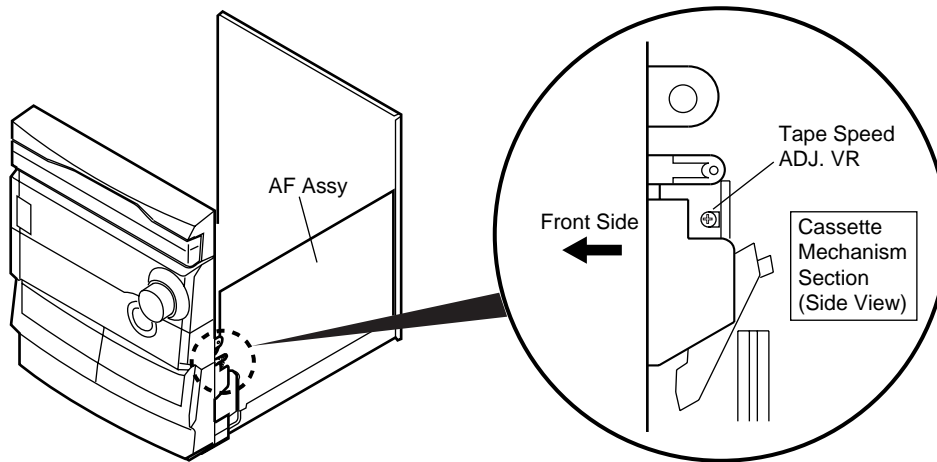

Fig.3 Tape Speed ADJ. Point
- Adjustment points and test points are shown in Fig.3, Fig.5 and Fig.7.